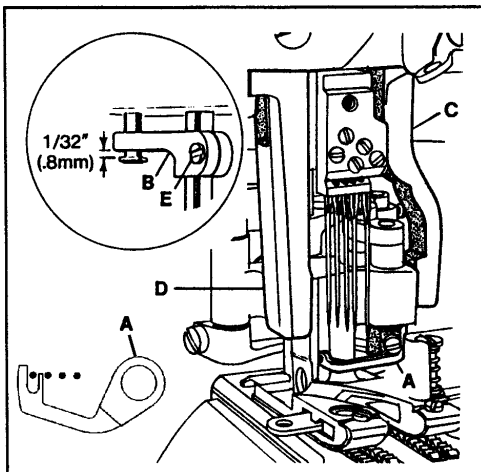

FIG. 20
Remove the presser bar regulating screw and the presser spring. Raise the needle bar to its highest position and remove the retainer. As the foot is slipped under the needles, swing the upper knife into the opening on the right side of the foot and slide the linkage onto the hook driving sleeve. Insert the presser bar through the linkage and into the presser foot shank. Tighten presser foot screw. With the presser bar inserted properly into the presser foot, position the foot left to right so the finger of cover thread carrier (A, Fig. 20) is between the first and second needles. Set presser bar guide (B, Fig. 20 Inset) so foot will not move. Set right presser foot guide (C) and left presser foot guide (D) to maintain setting. Loosen presser bar guide screw (E Fig. 20 Inset) and check to see that foot has vertical freedom with no right to left play, no bind. Put the needle bar in its lowest position, and set 1/32" (0.8mm) above head of presser bar guide stud. Tighten presser bar guide screw (E).
Turn the handwheel in operating direction until link (A, Fig. 20) has traveled fully to the front. There must be a  $1/64$ " (0.4mm) clearance between link (A) and the back of needle head (B) when link (A) starts to jackknife. Loosen screw (C) and rotate driving sleeve (D) to position link (A). Tighten screw (C).